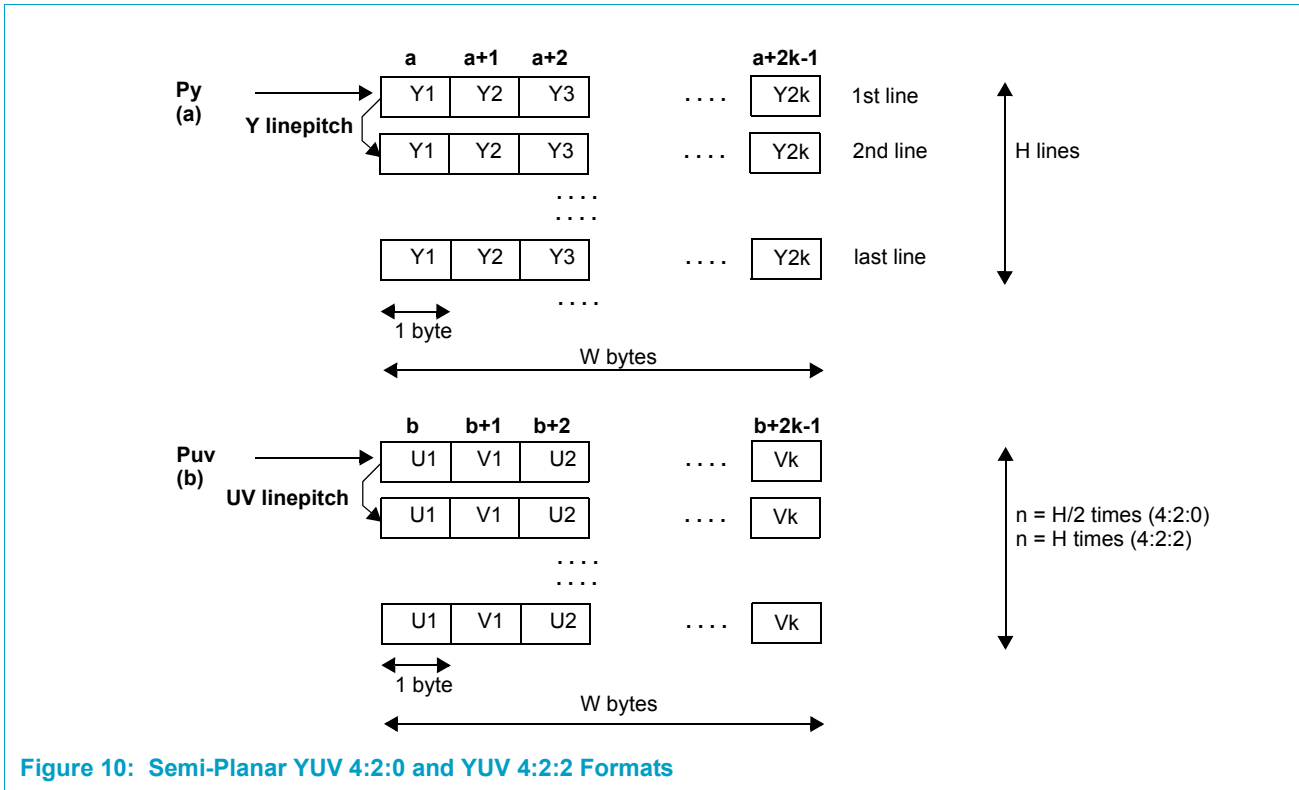

Figure 10: Semi-Planar YUV 4:2:0 and YUV 4:2:2 Formats
**Remark:** The U value of a UV pair always has the lower byte address. See Figure 10.